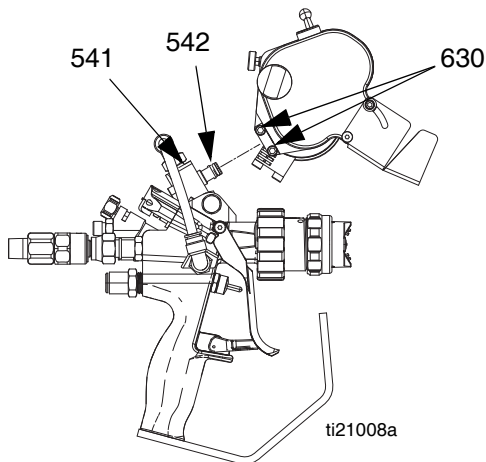

FIG. 3
- a. If necessary, use a crescent wrench to adjust pivot (541) so that it is parallel to gun front end and the open end points to the front of the gun. See FIG. 3.
- b. Back out screws (630). See FIG. 3.
NOTE: Ensure proper engagement of o-ring (542) into the cutter assembly. Verify there is no excess air leakage because it will greatly reduce the performance of the air motor. See FIG. 3.
- d. Tighten screws (630) to lock cutter in place.